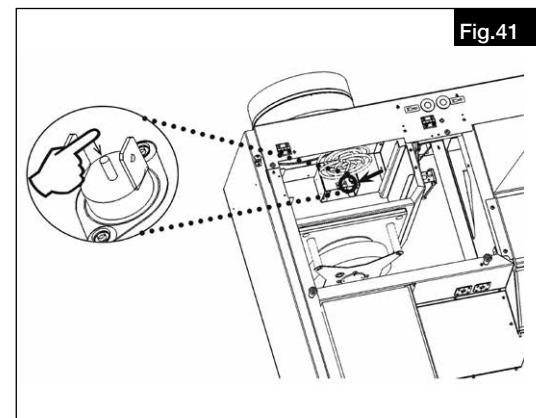

Fig.41
2. Press the reset button for the electrical pre-heater (see Fig.41).